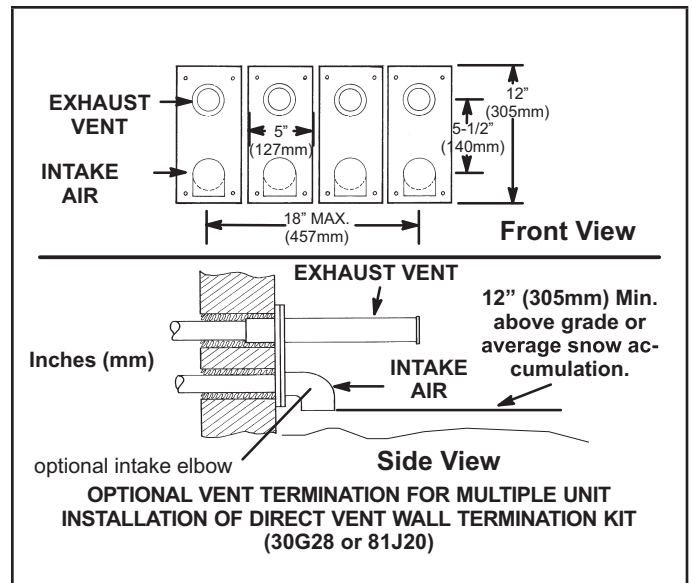

FIGURE 39
- 8 - A multiple furnace installation may use a group of up to four terminations assembled together horizontally, as shown in FIGURE 39.